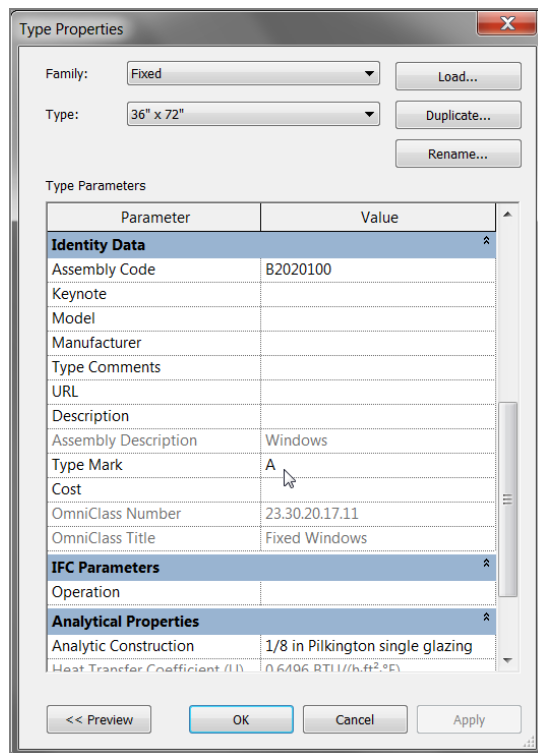

FIGURE 2.81: Changing a type parameter changes every window of that type.
3. Scroll down until you see **Type Mark**. Notice that this value is set to **A**. This is the property you changed by typing the value into the tag in the model. Window tags read the **Type Mark** property by default, whereas door tags read **Mark**, which is an instance property. In either case, Revit works both ways. If you change a tag value in the model, it changes the parameter value in the tagged object or tagged family (see Figure 2.81).